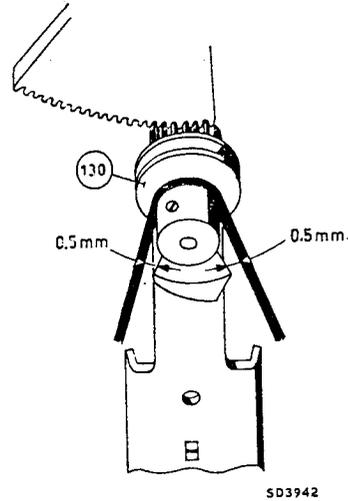

Fig. 16
9. Speed change mechanism (See Fig. 16)